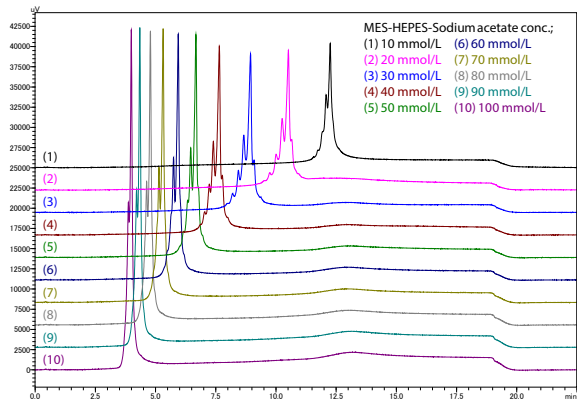

Fig. 2 Chromatograms Obtained from the Screening
Chromatograms from the screening process, measured under different MES-HEPES-sodium acetate concentration conditions in mobile phases, are shown in Fig. 2. That determined that the MES-HEPES-sodium acetate concentration in the mobile phase affected separation of charge variants.
Evaluation values are calculated as the number of peaks detected (P) multiplied by the sum of resolution factors (Rs) for all peaks. Fig. 3 shows the evaluation values obtained from mobile phase and column screening, listed from highest to lowest. It indicates that 30 mmol/L MES-HEPES-sodium acetate is the optimal mobile phase concentration and provides the highest value (chromatogram (3) in Fig. 2, shown enlarged in Fig. 4).
(Enlargement of Chromatogram in Fig. 2 (3))